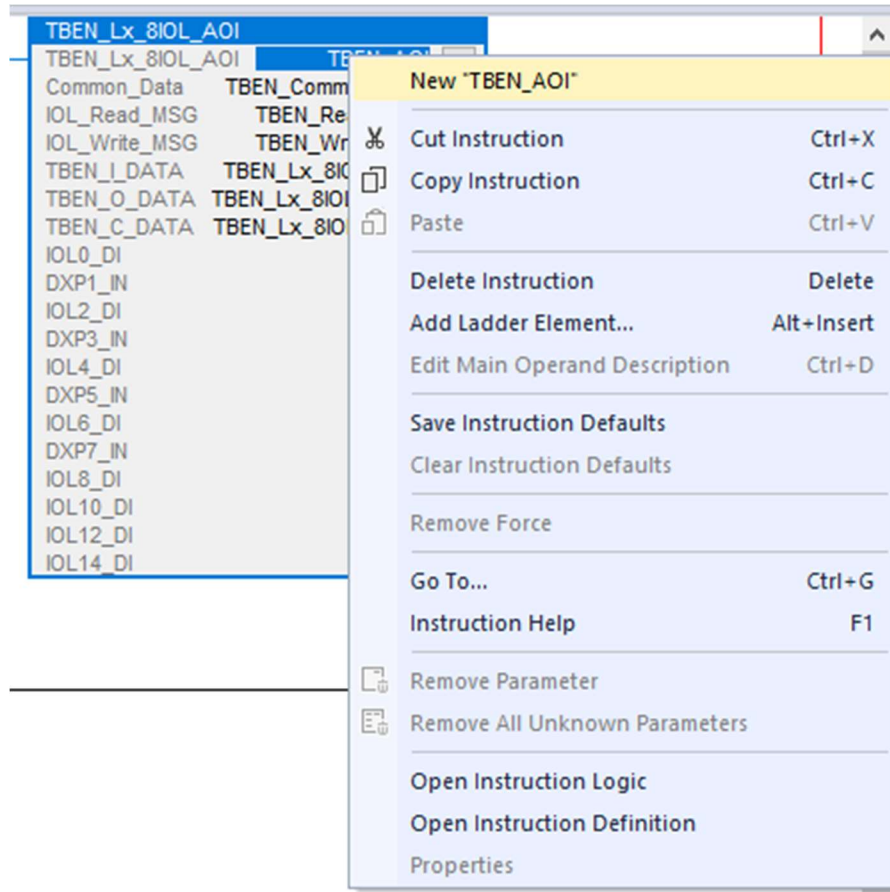

Figure 3.4 – Create an instance of the AOI
1. After every field has been filled out, the new data types will need to be instantiated correctly. To do this, right-click on one of the new data types. In this case "TBEN_AOI" which will produce the window shown in figure 3.4. Select "New "TBEN_AOI"".